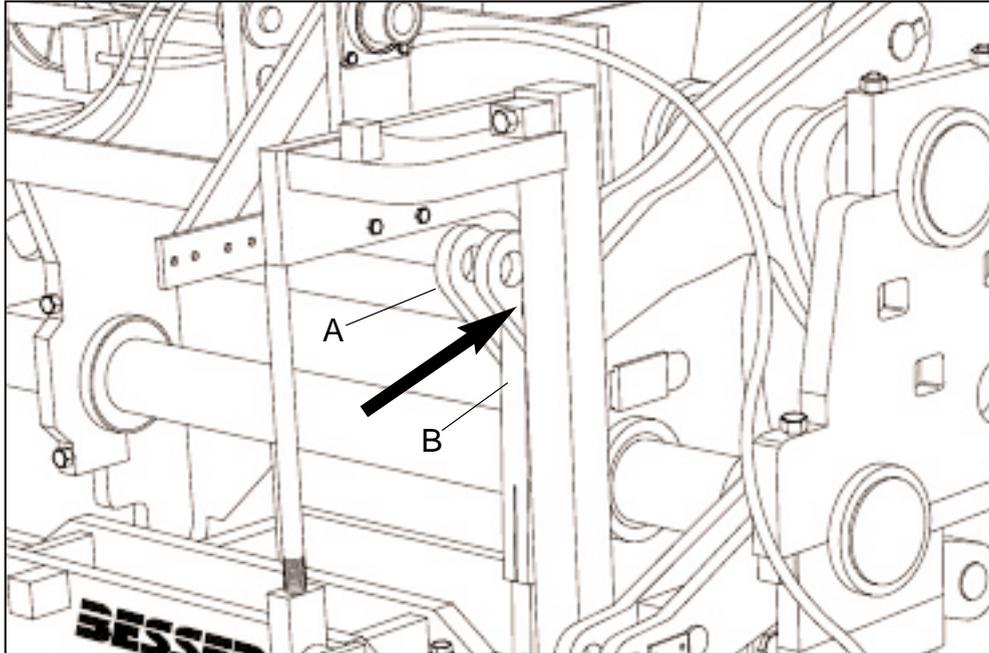

Figure 4.61 STRIPPER HEAD SHAFT AND LINKS.
- b. Stripper head shaft (A) - position pins in inside holes (short stroke) (see figure 4.61).
- c. Stripper head links (B) - position pins in top holes. Adjust links to obtain approximately **105mm (4 1/8")** between link ends (see figure 4.61).